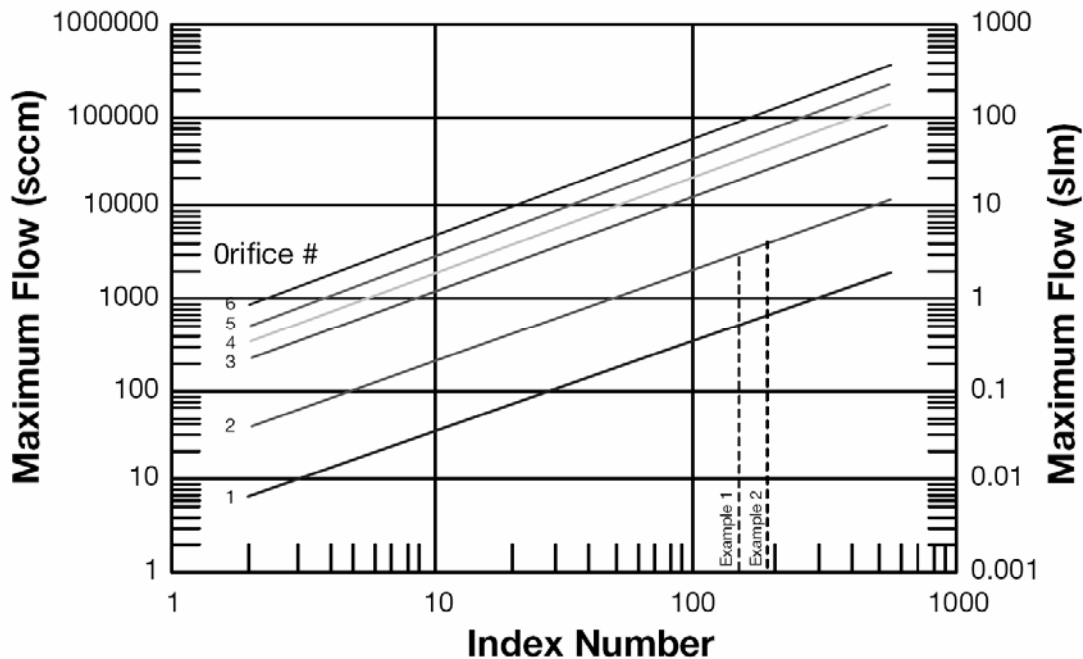

Figure 42: Orifice Selection Graph
**Note** The valves are not calibrated to match the valve orifice selection graph in Figure 42, page 111. The graph displays *typical* valve behavior.
- Use the index number and your maximum flow rate to determine the orifice size from the Orifice Selection Graph, Figure 42. Locate the Index Number along the bottom axis and then draw a vertical line at the Index Number. This line will intersect with the Maximum Flow Rate lines for the valve orifices available.
Drawing a vertical line on the Orifice Selection Chart at 234 indicates Orifice #2 would be the best choice. See the example #2 line on the Orifice Selection Graph, Figure 42, page 111.